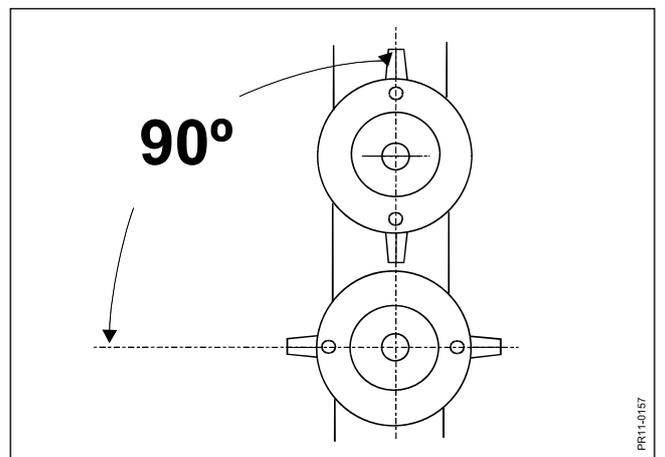

Fig. 6-11
- Fig. 6-11 If discs have been dismounted they must be mounted again staggered 90° in relation to each other.